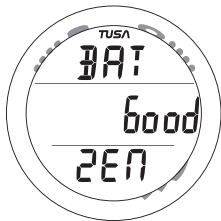

Fig. 33 - ZEN AIR BATTERY STATUS
**ZEN AIR BATTERY STATUS**, information includes (Fig. 33):